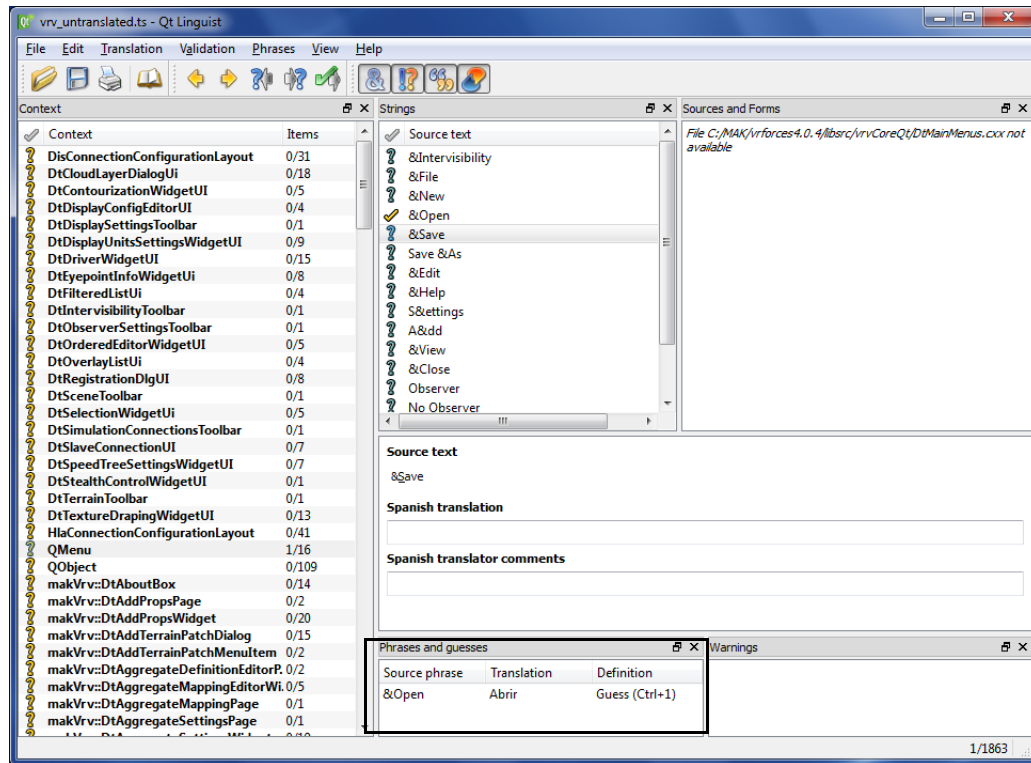

Figure 1-7. Completed translation for Open
9. When you are done and you are certain of the translation, select the Done and Next button on the toolbar. A green check mark replaces the question mark (Figure 1-7). If you move to a different text string without clicking Done and Next, a yellow question mark is displayed for the string you translated. When you translate all elements for a class, a green check mark replaces the question mark next to the class name.